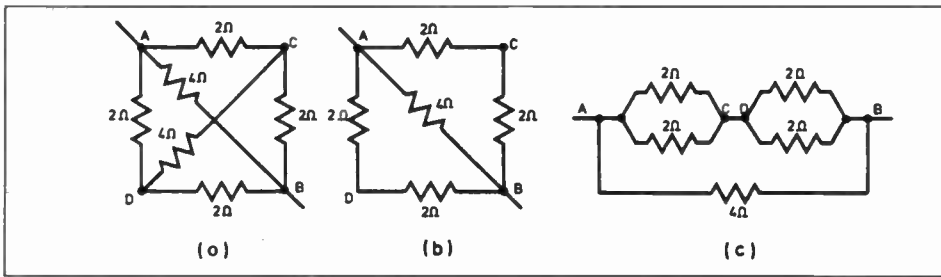

Fig. 4.8. Using the bridge principle to solve an awkward network.
5. What is the equivalent resistance between corners A and B of the network shown in Fig. 4.8(a).
If we ignore for the moment the 4Ω diagonal between points A and B, we can see that the points C and D must be at the same potential relative to any voltage applied between A and B. No current would flow through this resistor and hence it could be removed without affecting the total current drawn by the network and therefore its total resistance. The circuit may consequently be reduced to that of Fig. 4.8(b).
Alternately, since there is no potential difference across points C and D, we could short these points together with a zero resistance path to produce the equivalent circuit of Fig. 4.8(c). This then gives us the same result of 1.33Ω between A and B.